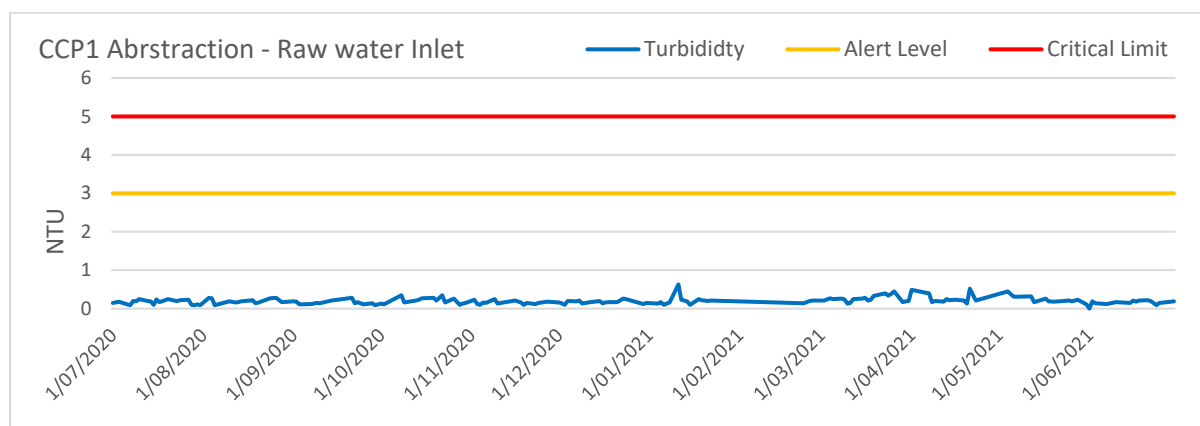

Figure 4.3.5a - CCP 1 Abstraction – Turbidity at Raw water inlet
Monitoring data for each of the Stuarts Point supply systems CCPs is shown in Figures 4.3.5a, 4.3.5b and 4.3.5c.
No Critical Limit or Alert Level exceptions occurred in the Stuarts Point supply during the 2020-2021 reporting year (Table 4.1 and Figures 4.3.5a, 4.3.5b and 4.3.5c). This supply has not recorded any exceptions for the past three (3) reporting years.